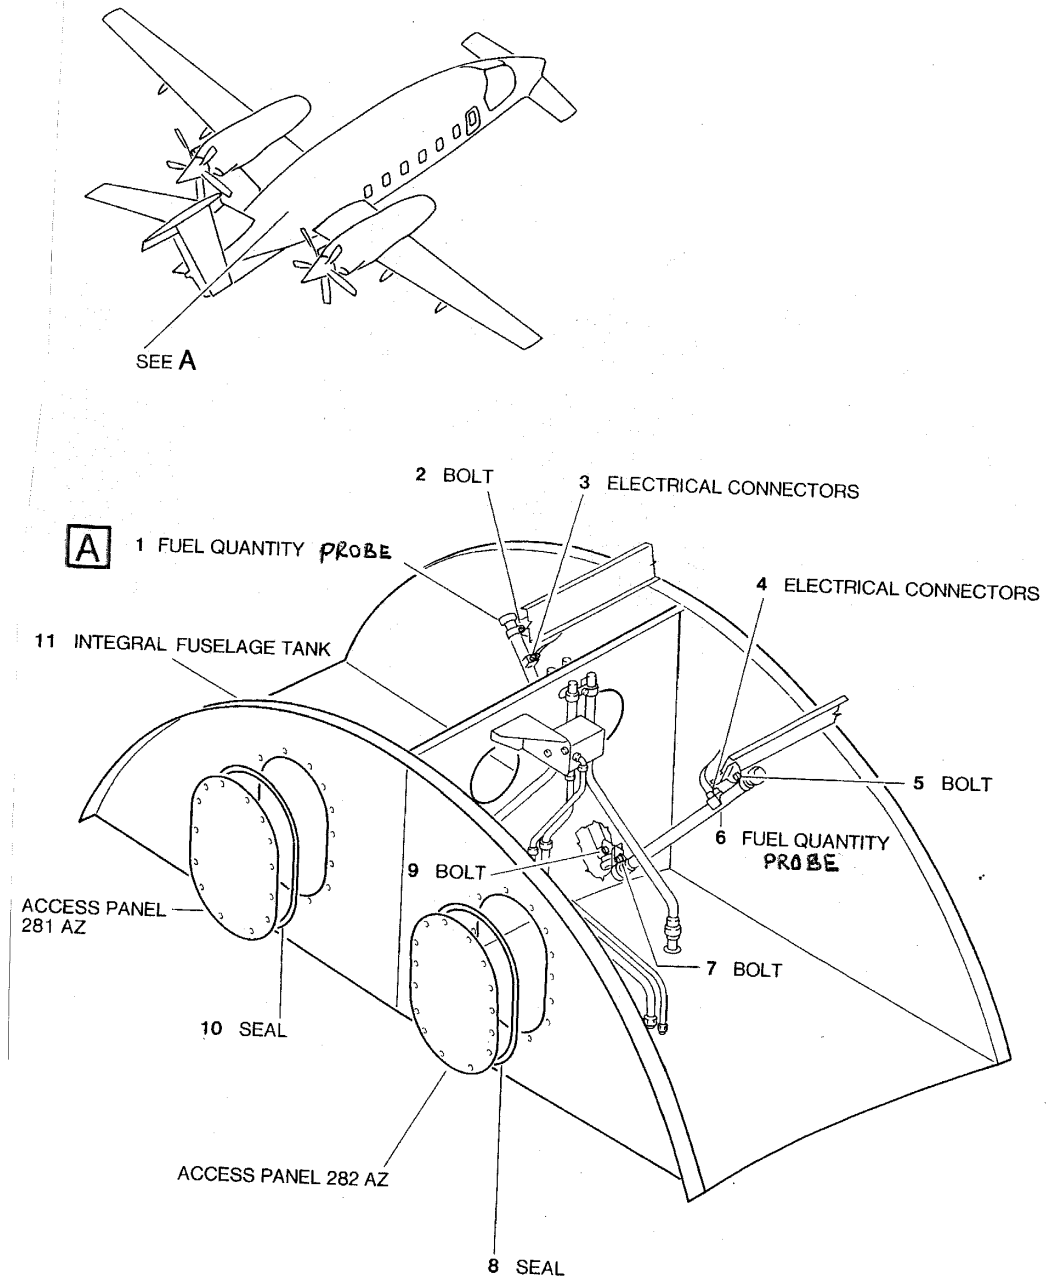

Fig. 201 - Fuselage Tank Probes - Inspection
2. Fuselage Tank Probes - Inspection (Ref. Fig. 201)